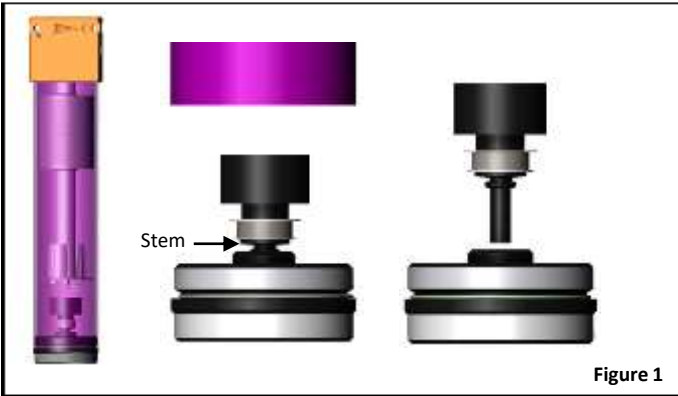

Figure 1
1. Remove the bottom cap from the Tsunami filter. *Figure 1*